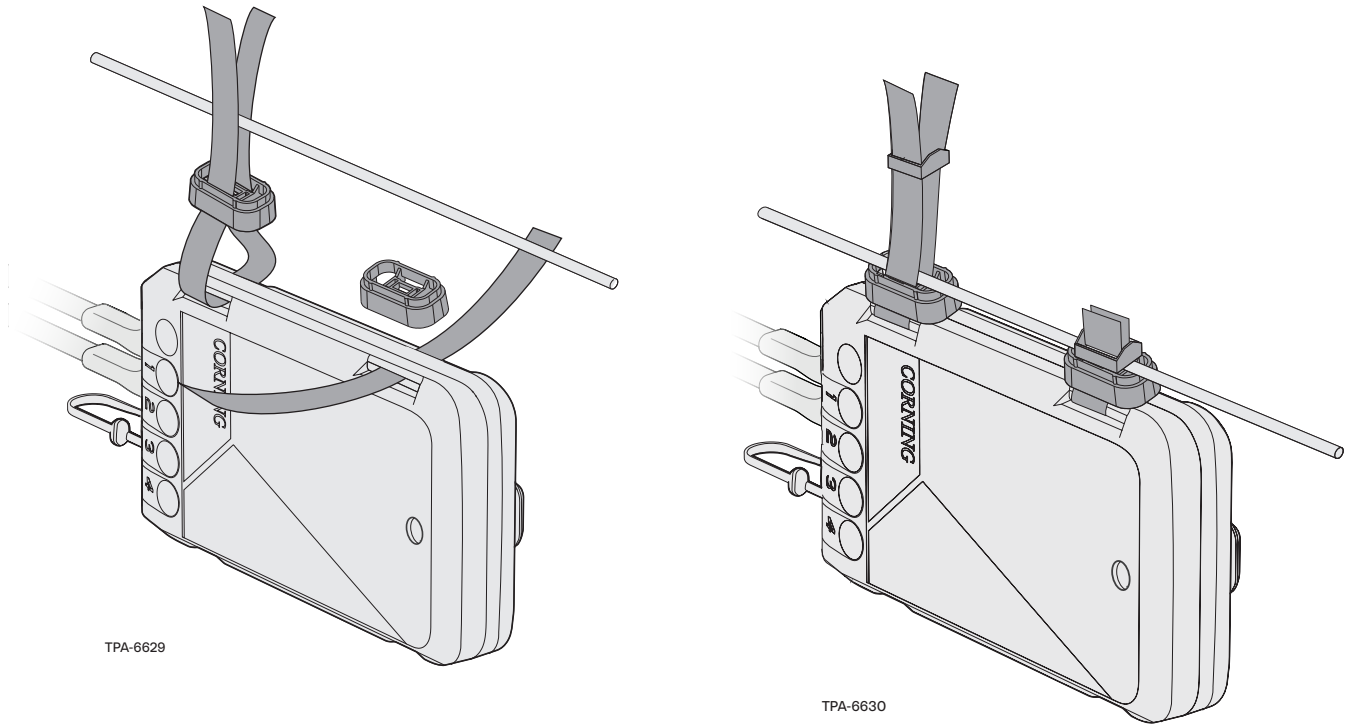

Figure 4
**Step 1:** Thread straps through spacer and slots in base of terminal. With strand between strap, insert locking head onto strap and tighten onto the strand (Figure 4).